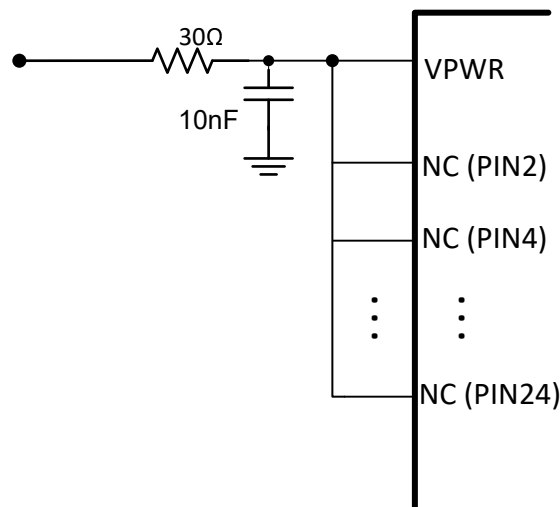

図 9-8. NC Pins Tied to VPWR
- Short unused NC pins between 2 and 24 (including 2, 24) to VPWR as shown in 図 9-8.
All NC pins between pin 1 and Pin 25 need to be tied to VPWR as shown in 図 9-8.